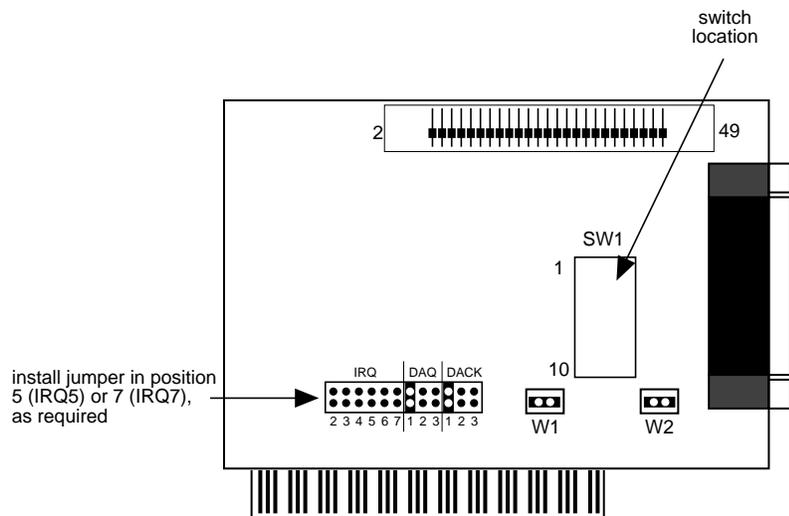
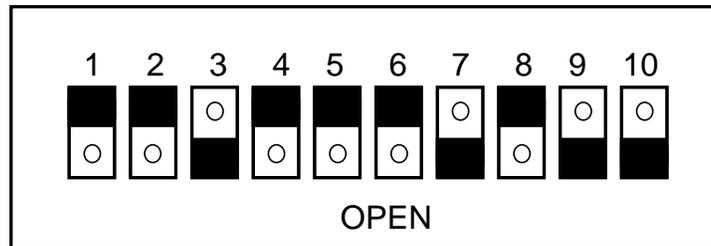

Figure 9-23. Cartridge Tape Controller Card
Figure 9-24. Cartridge Tape Controller Card Switch Settings
3. Set the switches and jumpers as indicated in the Figure 9-23 and Figure 9-24.